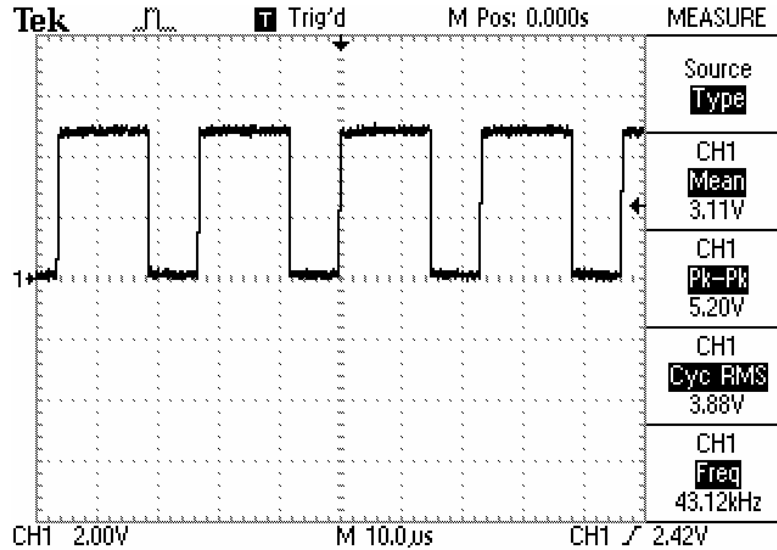

Figure 9: Oscilloscope Display of 40 kHz Digital Clock
15. [] Turn the TDS210 SEC/DIV knob clockwise, to display approximately 4 waveforms. See Figure 9.